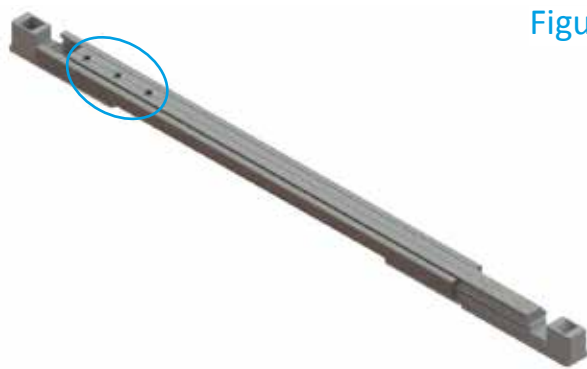

Figure 20.
1. Locate and loosen the screws, as guided in Figure 20.